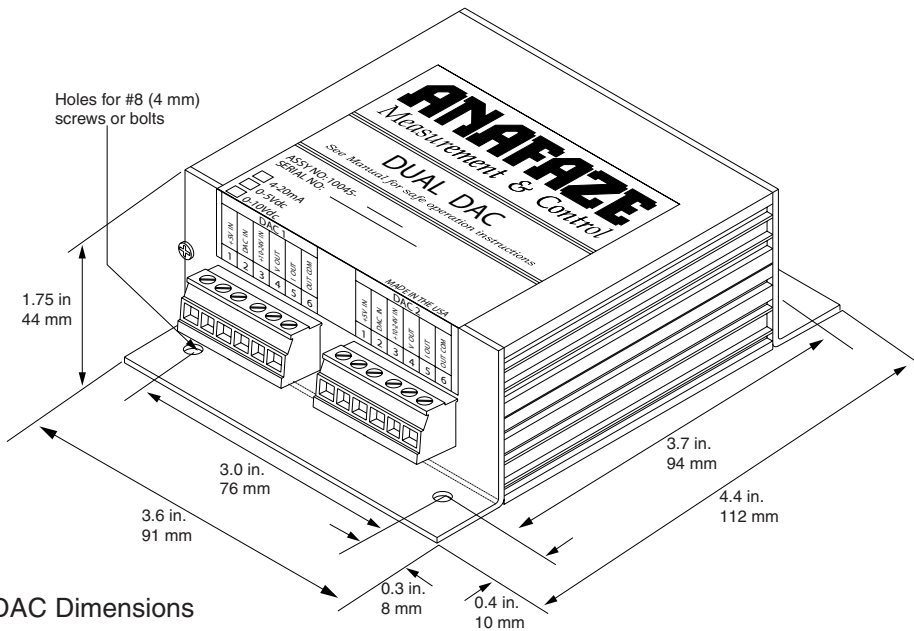

Figure 1. DAC Dimensions
- Drill four holes for mounting screws. Refer to Figure 1 for mounting hole dimensions and placement.